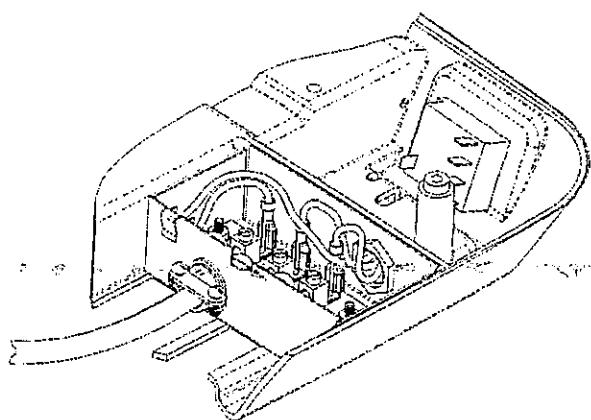

FIGURE 8
F. Insert the supply wiring through the cable clamp and into the field wiring box so that 4 - 6" of supply conductor is inside the box. Secure the cable clamp over the supply wire sheath so that no movement is possible (See Figure 8).
G. Connect the supply power conductors to the "A" and "N" lugs on the terminal board. IMPORTANT - If power is from one "Hot" and one "Neutral" conductor, connect the neutral to "N". Connect the ground wire to the "E" lug on the terminal board (See Figure 8).